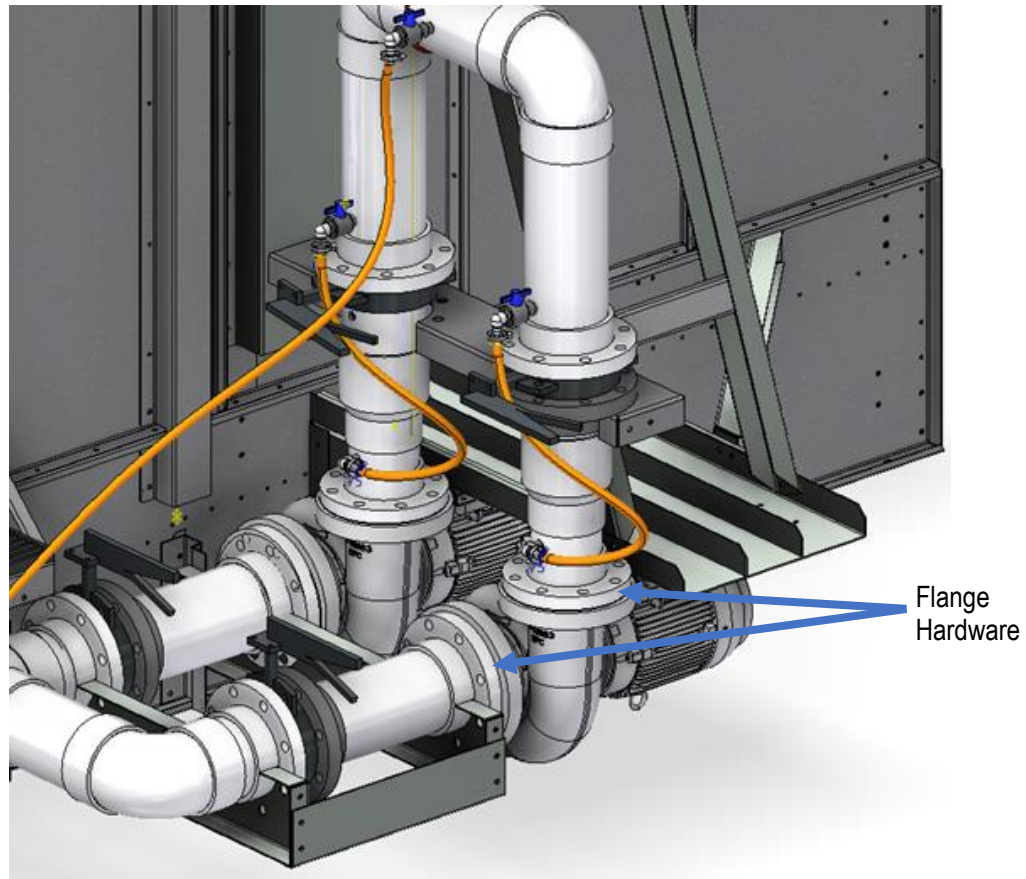

Figure 16. Pump Volute Flanges
4. Loosen and remove the flange hardware and gaskets from the suction and discharge flanges of the pump volute. See **Figure 16**. NOTE: Do not remove hardware from the discharge or suction valves.
2. Attach the flange hardware and gaskets to the suction and discharge flanges of the pump volute. See **Figure 16**.